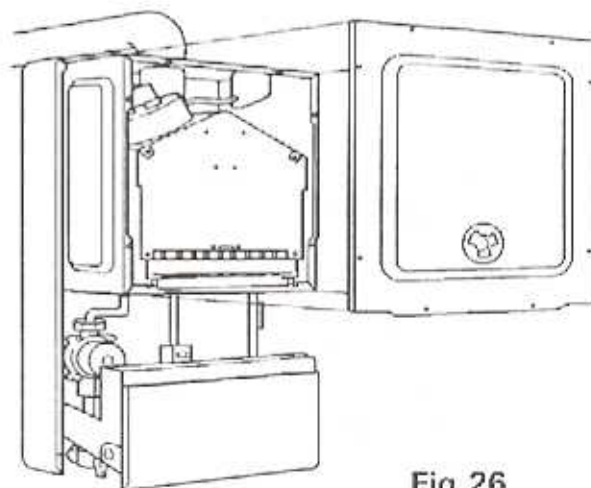

Fig.26
8.5 Room Sealed Chamber Front Cover (Including Viewing Window). Part No. 5904 Refer to fig.26
8.5.2 Remove room sealed front cover plate by releasing eight screws (fig.26) and easing cover off. The screws are not captive. Inspect gasket for damage. If damaged, replace.